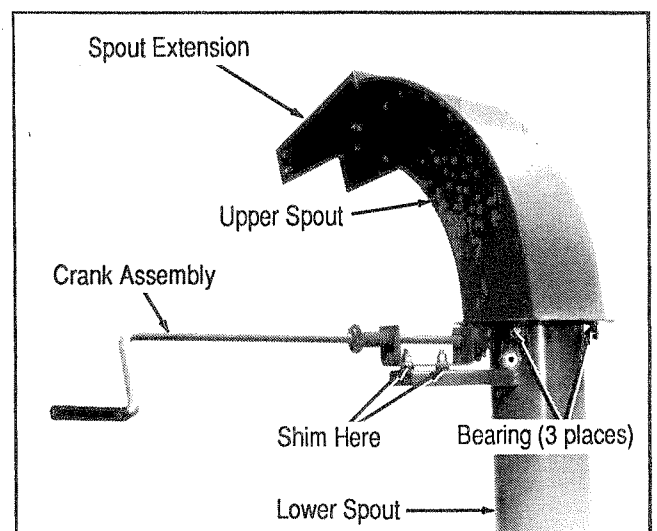

Figure 3. Spout Attachment & Crank Assembly
1. Attach the lower spout to the Bale Chopper. See Figure 3.
2. Mount the upper spout on the lower spout. Be sure to install the roller bearings as shown. See Figure 3.
3. Install the crank assembly. See Figure 3. If the sprocket teeth do not fully engage the ring on the upper spout, shim the crank assembly with washers. Lightly lubricate the sprocket teeth, the areas of contact between the upper spout and the lower spout, and the areas where the crank contacts its brackets.
4. Attach the spout extension to the upper spout. See Figure 3.